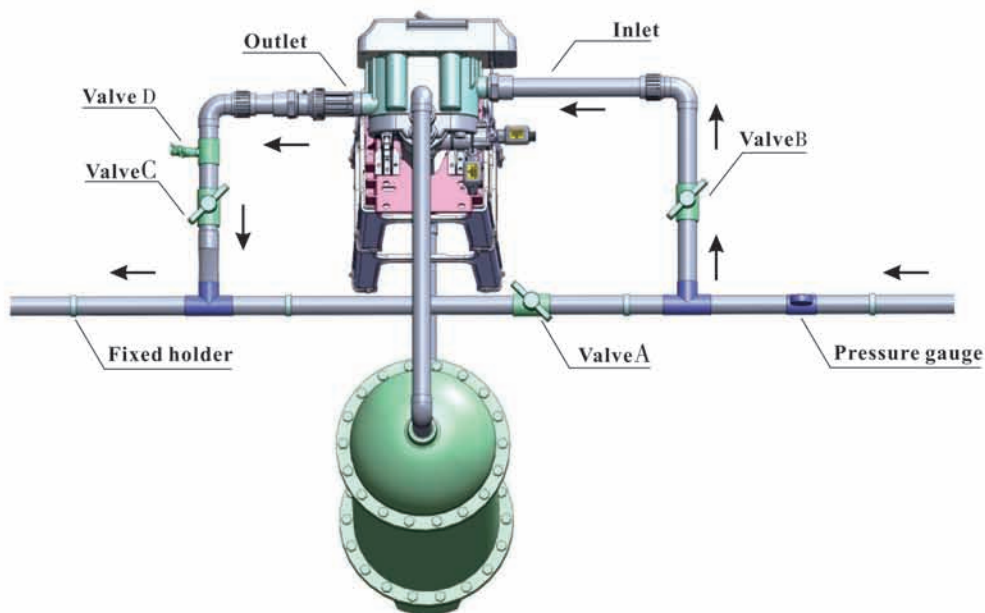

Figure 1-4
③ Pipeline connection
a. As Figure1-4 shows, install a pressure gauge in water inlet.